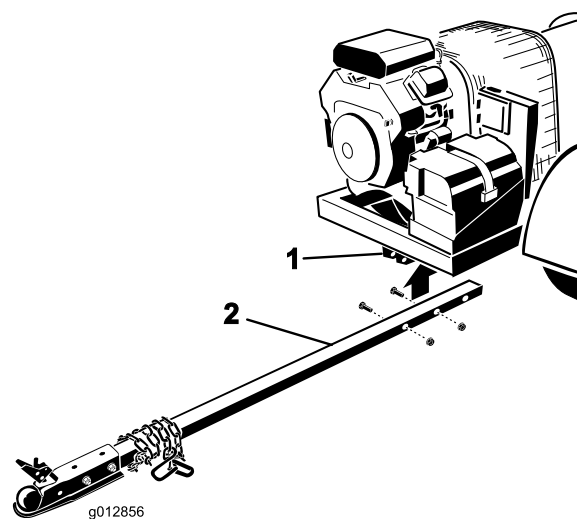

Figure 9
2. Insert the hitch tube into the frame brackets (Figure 9). Secure the tube to the frame with 2 bolts (3/8 x 3 inches) and flange nuts (3/8 inch).